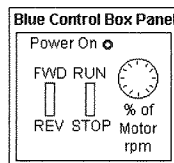

Figure 2
3. From the Control Box Panel, see Figure 2; switch the machine to "Run". Check that the machine is moving in both the "Forward" and "Reverse" directions.